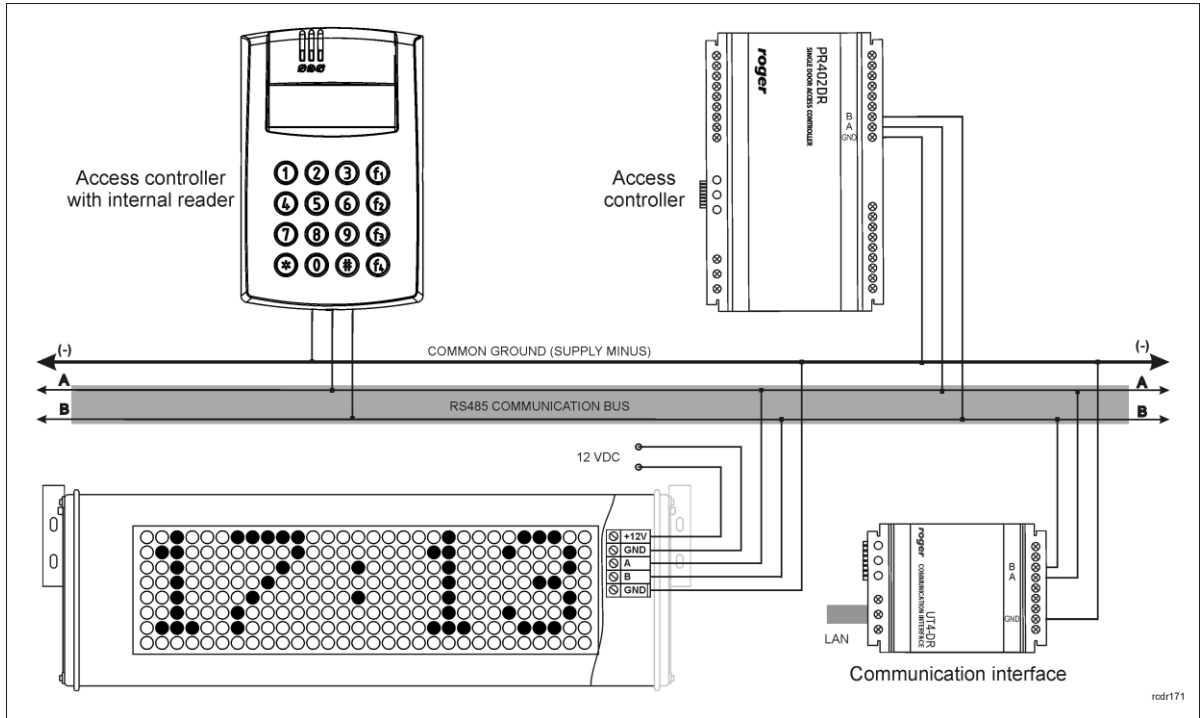
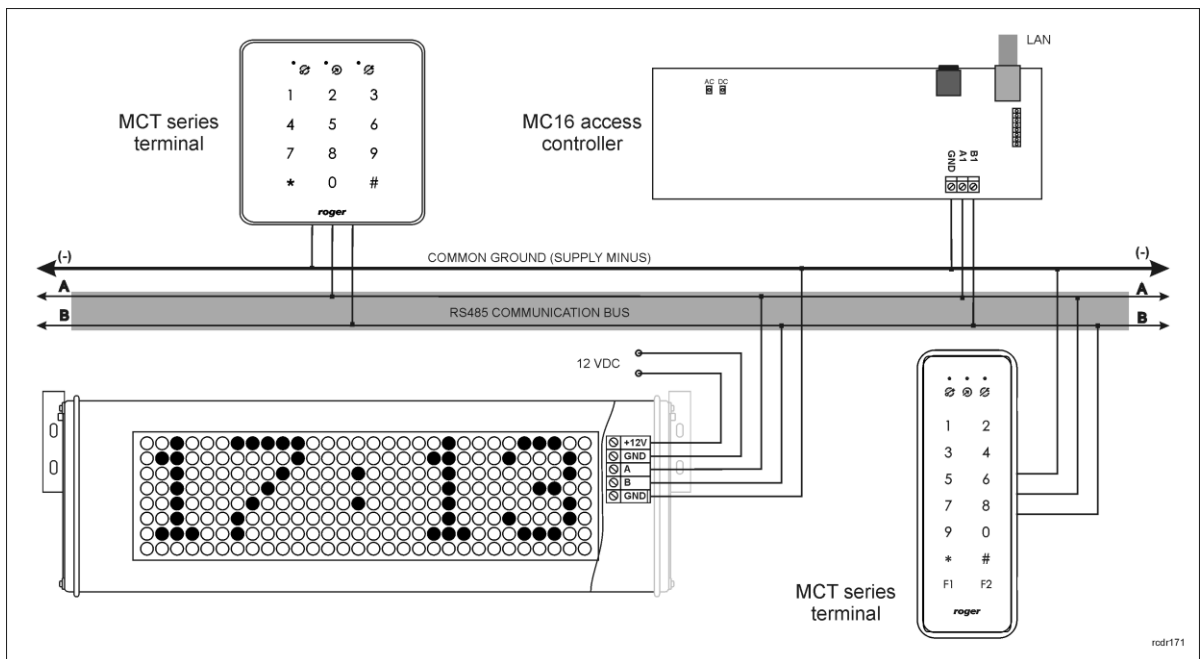

Fig. 2 Example of ASCD-1 connection in RACS 4
Fig. 3 Example of ASCD-1 connection in RACS 5
The RS485 bus consists of two signal lines A and B. In the RACS 4 and RACS 5 systems any topology can be used (star, tree or any combination of them, except for loop) in order to connect controllers into network (RACS 4) or connect peripheral devices to MC16 access controller (RACS 5). ASCD-1 in standalone mode uses internal clock and does not require connection to RS485 bus. In case of operation within access control system, the connection according to fig. 2 or fig. 3 is required.
- Connect the device to access controller according to fig. 3